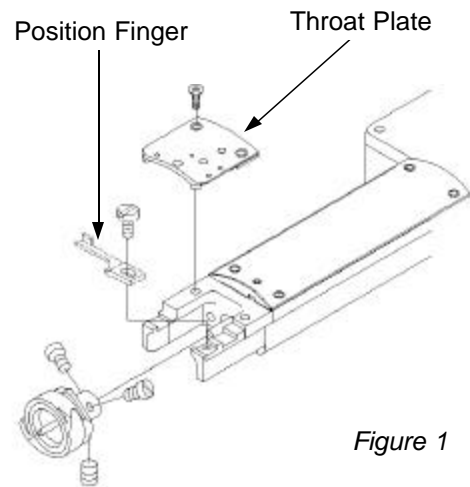

Figure 1
1. Using 2.5mm hex key, remove (2) Throat Plate screws and Throat Plate. *See figure 1*
3. Using a slotted screw driver, loosen Position Finger screw. *See figure 1*